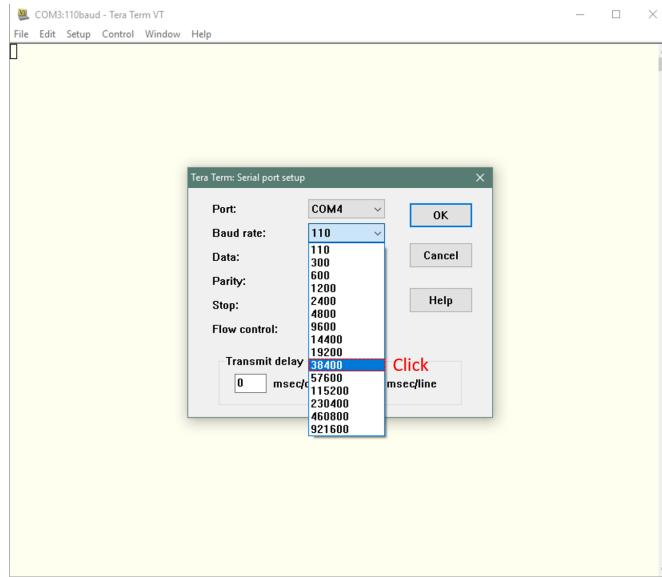

Figure 3.17: *Tera Term Pro* baud-rate [5].
- configure the baud-rate of *Tera Term Pro* to  $38\,400 \text{ Bits s}^{-1}$  in the section *Categories < Connectivity < UART2 < Configuration* like shown on the fig. 3.17;